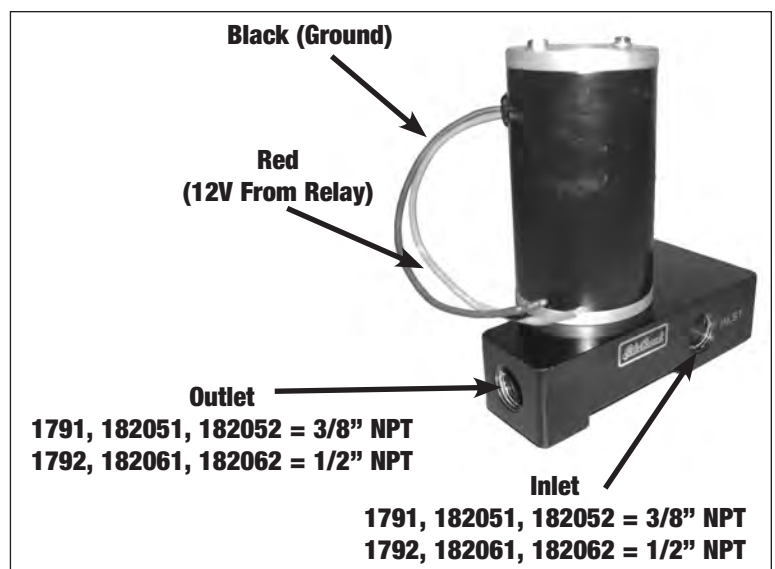

Figure 2 - Fuel Pump
NOTE: These pumps are only designed to push fuel from the rear of the vehicle forward, towards the engine bay. The pump must be mounted below the fuel level or pickup tube inlet for the pump to prime properly on startup. Ideal installation would mount the pump upright as shown in **Figure 2**, but the pump will operate in any orientation.
7. Install the appropriate fittings or use appropriate sized hose ends on your fuel line (**Fuel fittings not included**) (**See Figure 2**). Lightly coat the threads of the fittings with thread sealer before assembly. See the Russell catalog or visit www.russellperformance.com for a selection of fittings and hose ends.
Connect the **BLACK** wire to a battery ground or good engine/chassis ground, and the **RED** wire to the 12v output from the relay being used (**See Figure 2**). The relay should be wired such that power to the fuel pump is only on when the key is on. See the installation instructions to Universal Fuel Pump Relay #1795 for relay wiring instructions.